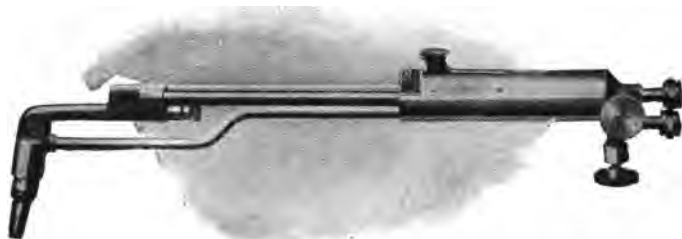

Fig. 9. Oxy-Acetylene Cutting Blowpipe
**Oxy-Acetylene Cutting.** Cutting by the oxy-acetylene process is done by means of a separate blowpipe, Fig. 9, quite different in construction from that used for welding. A more detailed description of the cutting process is given on page 77.